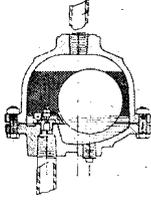
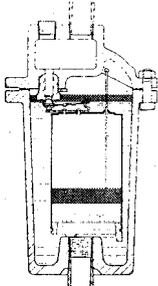

Fig. 5
Fig. 6
2. Oil is discharged first — See Fig. 6 and then compare with Fig. 5. Bucket vent scrubbing wire keeps bucket vent open at all times.